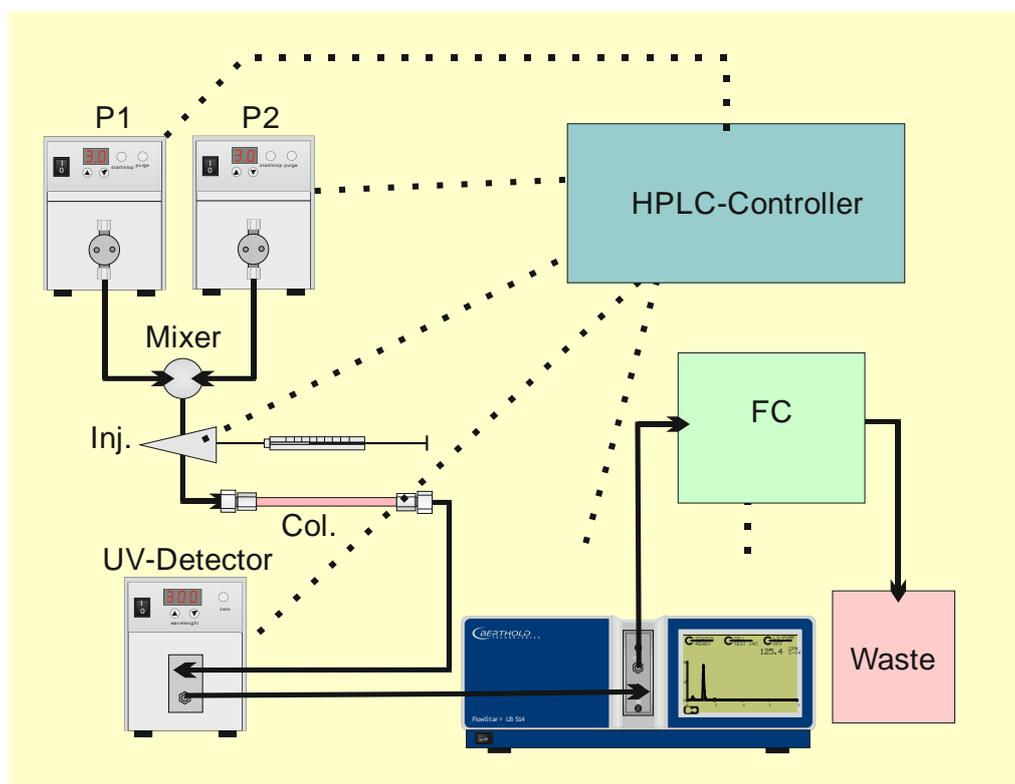

Figure 15: Configuration with solid cell
The entire measuring system should be set up in such a manner that the capillary connections can be kept to a minimum length. This is especially true for the *column*, the *UV detectors* and the *HPLC Monitor FlowStar²*. Figure 15 shows an example of a possible setup. The capillary connections are identified by straight (_____) lines, whereas the electrical connections are drawn as dotted lines (.....).
18. Only for admixture cells: (see also Figure 15)